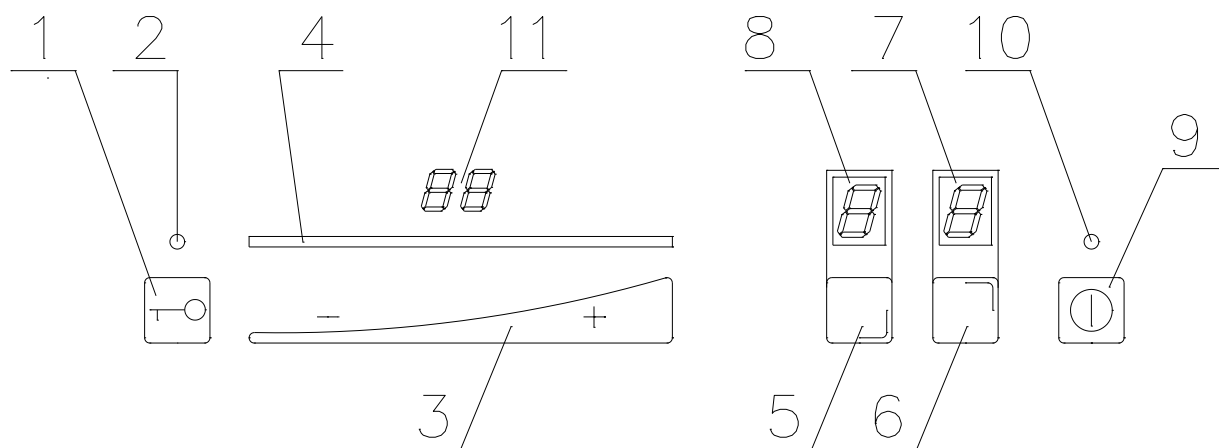

Fig. 2 (control panel – no 7. on fig. 1.)
- TIMER function, touch a burner selection field twice (Fig.2, no 5 or 6), touch “+” and “-“ to select time in minutes (from 1 to 99min.), the burner stops automatically after selected time
-When you choose any single burner by touching the controller activating field no 5, or 6, on fig. 2 and set the power by touching the power setting slider, no 3 fig. 2, within a range exceeding “0”, the selected burner will go on. This is supposed to happen within less than 5 seconds of enabling the controller via on/off sensor – item on fig. 2. If the delay is longer than specified above, the burner will not start and the controller will switch to standby mode until further instruction is received.
3. Touch the on/off sensor **no 9 fig. 2**. “0” indicators will light up in fields **7, 8**. If you touch
the sensor corresponding to the selected burner – **fig. 2**. again, as needed and as indicated on the heating panel, you start the second stage of burner setting. Slide your finger along the setting slider – **no 3 on fig. 2** – to set the required power of the heating pad. At that time, the power setting display – **no 4 of fig. 2** – displays a row of diodes and a digital message shows in the previously selected field, within the range of **0** to **9**, showing the power value set. As the row of diodes extends and the message number displayed increases, the burner power increases as well, and opposite – if you slide your finger towards the key symbol, you will reduce the power setting. The row of LEDs will simultaneously become shorter and the numbers displayed are lower, to finally reach “0”. “9” corresponds to the maximum heating power of the burner, and “0” corresponds to no power set.
- After each change of the selected burner's power setting, the row of LEDs will light up, then go off after a short time, with only the modified power setting of the active burner being displayed. When you have started all burners, their power settings are displayed accordingly and the LED row – **no 4. fig. 2** is off. Burners that have not been switched on in the relevant controller field corresponding to the burner indicated on the panel will remain off and not light up. If the burner heating power level is set from 1 to 9, the burner will operate in pulse mode, meaning that when the burner is not burning gas (several to several tens of seconds in one cycle), it re-circulates heat from incandescent hearth to heating pad of the ceramic panel, thus achieving better gas intake efficiency.
–**TIMER** function, touch the burner selection fields twice (Fig.2, no 5,6,7 or 8), touch “+” and “-“ to select time in minutes (from 1 to 99 min.), the burner stops automatically after selected time
The hob operating status with reheating is a transitory condition for rapid achievement of target temperature of the active hot field, up to the heating power set. It is signaled by the decimal point lighting up next to the active burner's digital indicator (5,6, fig 2).
In order to switch off any of the operating burners, touch the corresponding sensor, then slide your finger along the slider towards the “key” so that to reduce the burner's power setting to “0” (gas supply shutdown). During this operation, the row of LEDs (**no 4 fig. 2**) showing the power level goes down and the digits decrease from the level previously set to level “0”. When level “0” is reached and the controller is ready for restarting, the letter “H” will display after a moment, indicating that the panel is hot in the location of the burner that has just been shut down.
- touch the sensor /key/ with your finger – **no 1 fig. 2** at least twice in 2 seconds’ time. When pressed shortly twice, the controller will be locked,
- signaling LED lighting up and a sound signal **no 2 fig. 2** indicating the controller lock status, a long sound signal will be heard simultaneously. The hob controller does not respond to any instructions except for lock status change.
- touch the sensor with your finger (**no 1 fig. 2**) twice within up to 2 seconds,
- the signal LED (**no 2 fig. 2**) goes off, the lock is off, and a sound signal is emitted.